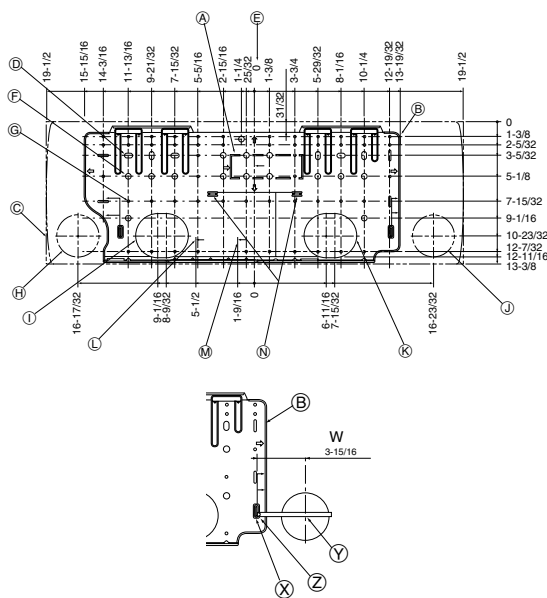

Fig. 3-2
③	Pipe cover	1
④	Band	5
⑤	Felt tape	3
⑥	Wireless remote controller	1
⑦	Remocon holder	1	Set inside the unit for PKA-A-GA
⑧	Alkali batteries (size AAA)	2
⑨	Mount piece (Package)	1
⑩	Wired remote controller	1
⑪	Drain adaptor	1
⑥ - ⑧ are stored in a cut-out section of the packing material (styrofoam).
3.2. Installing the wall mounting fixture (Fig. 3-2)